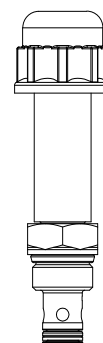

FIG. 4-7
4. Locate desired function on valve (9008416) and move cartridge to top/bottom detent, as desired, and lock in position. (FIG. 4-7)
5. Push and hold the power cartridge on valve (9008438). (FIG. 4-7)